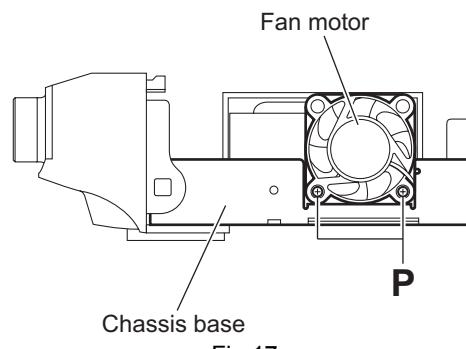

Fig.17
- (3) From the right side of the main body, remove the two screws **P** and take out the fan motor from the chassis base. (See Fig.17.)